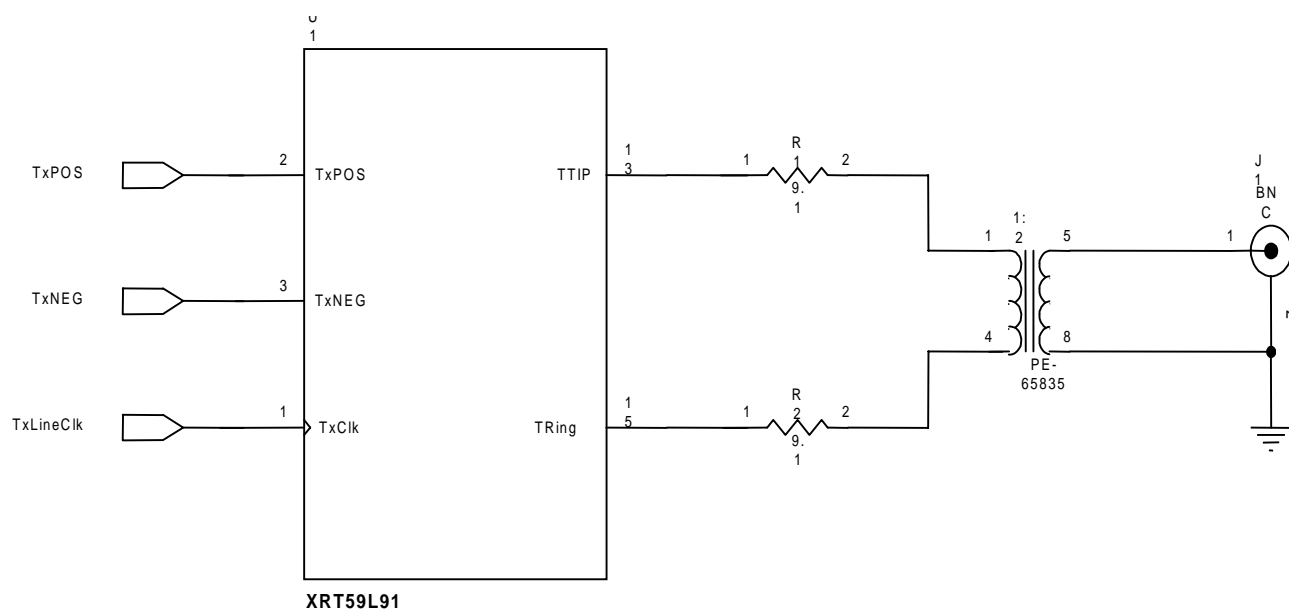

Figure 5. Illustration of how to interface the Transmit Section of the XRT59L91 device to the Line (for “75 Ω ” Applications)
In both applications (e.g., 75 Ω or 120 Ω), the user is advised to interface the Transmitter to the Line, in the manner as depicted in Figures 5 and 6, respectively.
1. Figures 5 and 6 indicate that for both “75W” and “120W” applications, the user should connect a 9.1Ω resistor, in series, between the TTIP/TRing outputs and the transformers.
2. Figure 5 and 6 indicate that the user should use a “1:2 STEP-UP” Transformer.